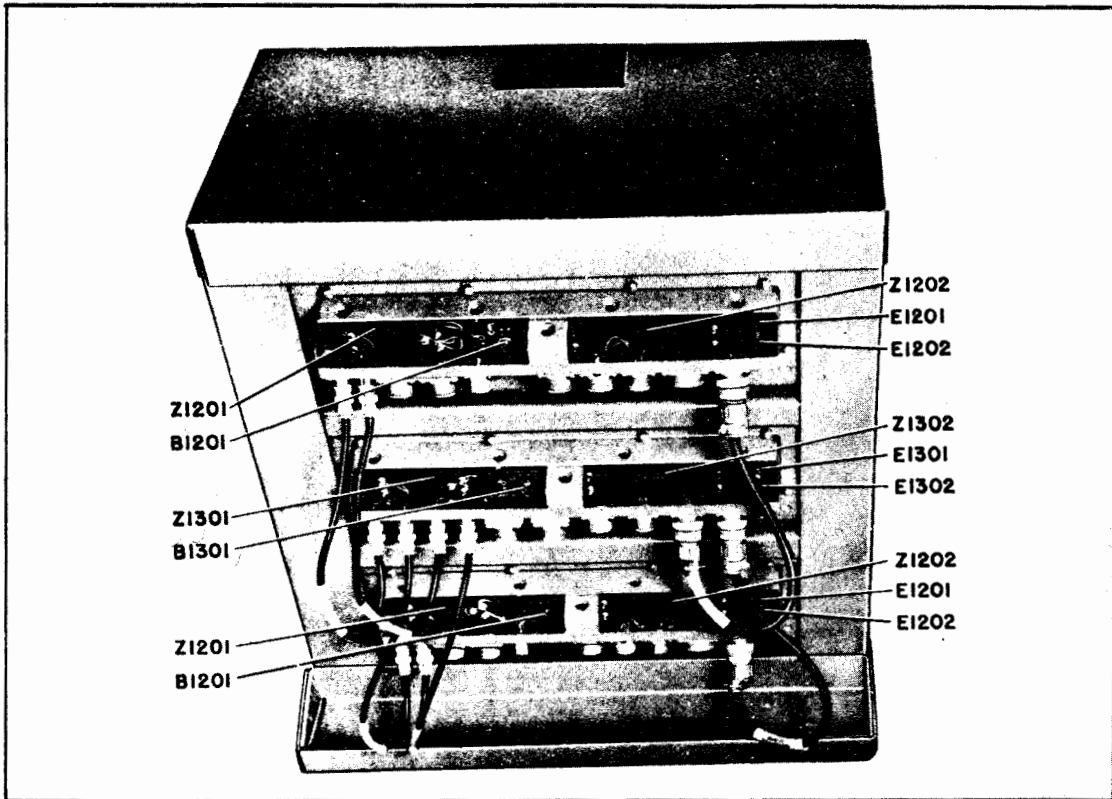

Figure 7-2. Cable Filters
b. CABLE FILTERS.—See Figure 7-2. Check the circuits for continuity and shorts, using an ohmmeter. Trouble in the fan motor can best be remedied by replacing the motor or motor capacitor. See Figures 7-19 and 7-20 for the Converter Cable Filter schematic and wiring diagram and Figures 7-21 and 7-22 for the Comparator Cable Filter schematic and wiring diagram.